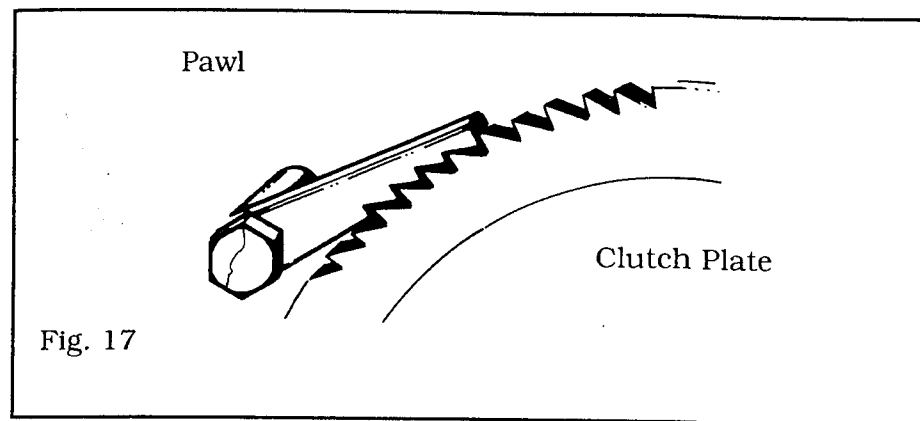

Fig. 17
- a. Check to make sure the pawl is engaging the clutch plate teeth. [See Fig. 17.]
Check clutch plate; [Fig. 17] if glazed—clutch must be cleaned with sandpaper. If impregnated with oil—clutch must be replaced. Never attempt to perform this maintenance while unit is suspended.